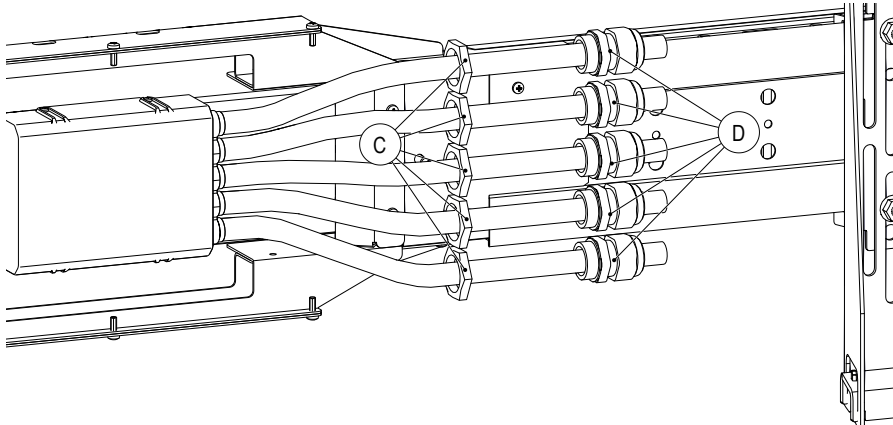

Fig. 67: Slide lock nuts (C) and screw connections (D) onto connecting cables
2. Loosen the rear hexagon nut of the anchor point (A) with an open-end wrench SW 10. Remove the spring washer (B) and the hexagon nut (A) and sufficiently lift for the later installation of the strain relief plate (see Fig. 67).